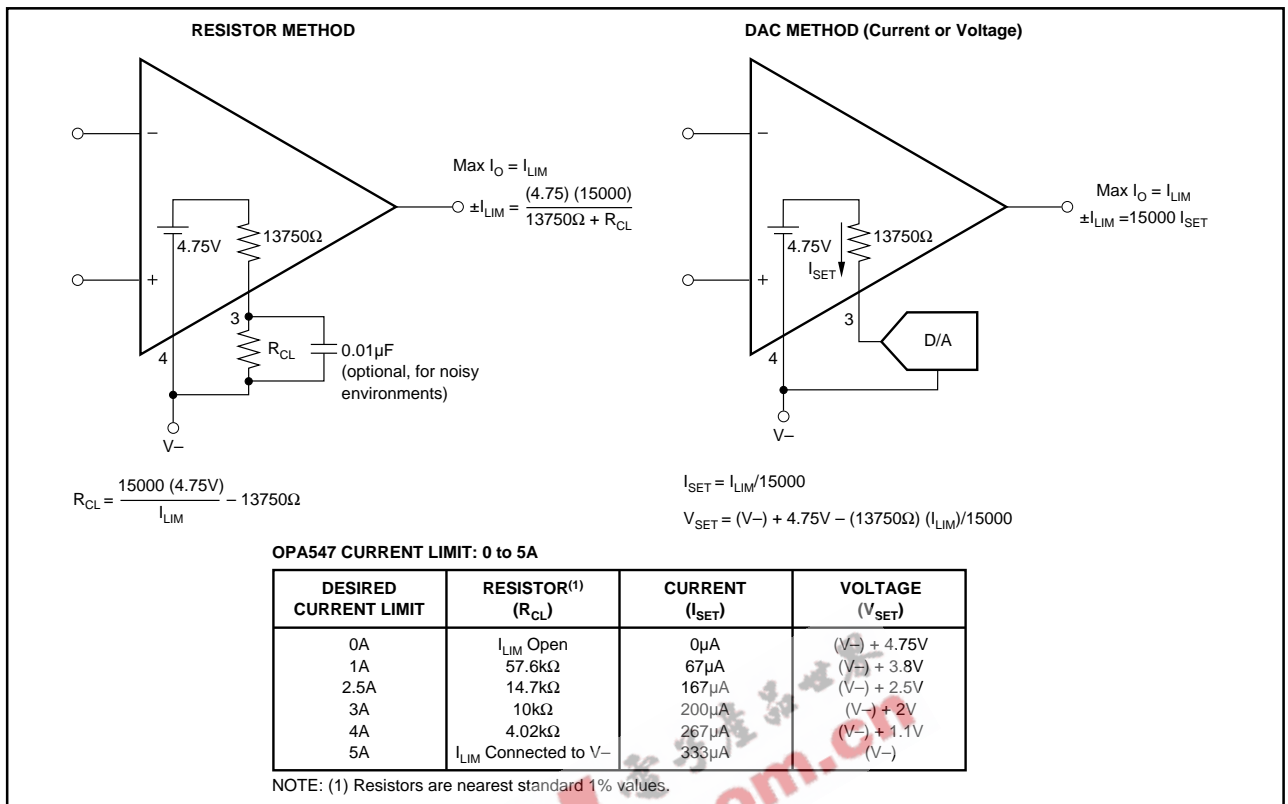

FIGURE 3. Adjustable Current Limit.
Figure 3 shows a simplified schematic of the internal circuitry used to set the current limit. Leaving the  $I_{LIM}$  pin open programs the output current to zero, while connecting  $I_{LIM}$  directly to V- programs the maximum output current limit, typically 5A.
NOTES: (1) Works well for  $G < 10$ . Input offset causes output current to flow between amplifiers with  $G > 10$ . Gains (resistor ratios) of the two amplifiers should be carefully matched to ensure equal current sharing. (2) As configured ( $I_{LIM}$  connected to  $V^-$ ) output current limit is set to 10A (peak). Each amplifier is limited to 5A (peak). Other current limit values may be obtained, see Figure 3, "Adjustable Current Limit".